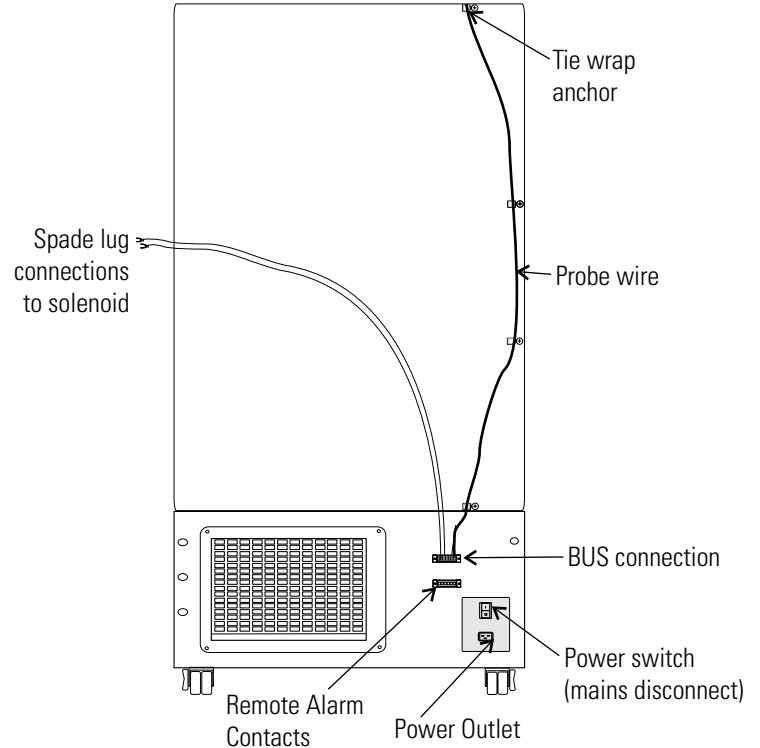

Figure 5-5
1. Remove the four screws on the freezer back panel and use them to mount the tie wrap anchors as shown in Figure 5-5. Secure the probe wire with tie wraps.
4. Connect power to the freezer. Turn the freezer On, with battery switch Off (O).